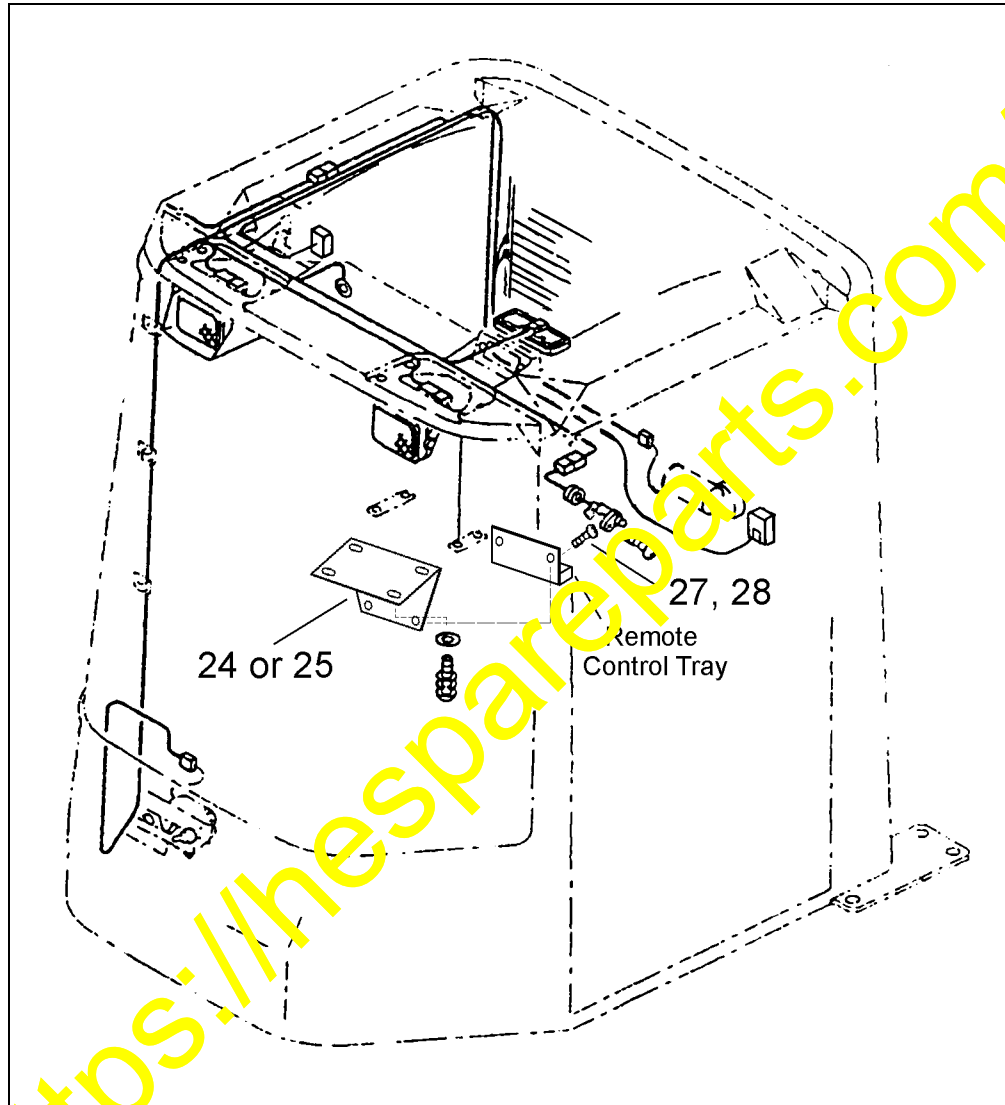

Figure 2
4. Mount the proper bracket (24 or 25) depending on windshield type with the existing screws (27) and nuts (28). (See Figure 2).